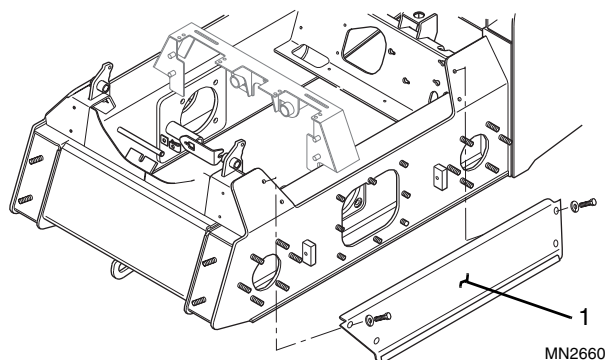

Figure 10-58 Frame Side Cover Removal
27. Remove the left (Fig. 10-58, 1) and right (not shown) side covers from the vehicle.